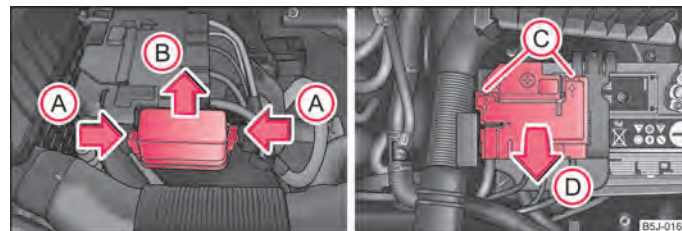

Fig. 153 The battery: fuse cover
- Press together the interlocks of the fuse cover simultaneously in direction of arrow (A) ⇒ fig. 153 and push out the cover in direction of arrow (B).
- Release the fixtures in the openings (C) using a flat screwdriver and fold the cover upwards in direction of arrow (D).